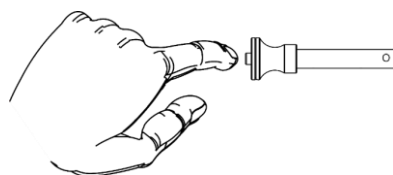

Fig. 23
- 03) Push and hold down the button of the **inclination angle spring-loaded fast-lock (17)** (Fig. 23).